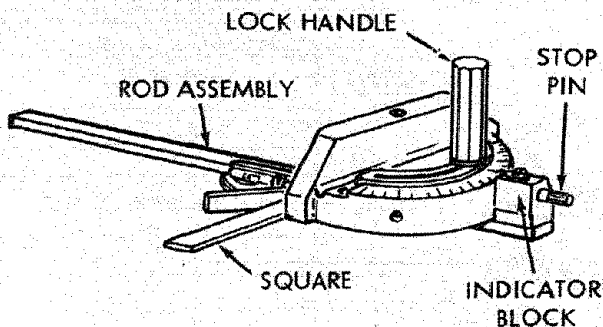

Figure 33
(1) Loosen the lock handle and push stop pin firmly into the middle detent ("0" position on the scale). The stop pin will be seated more effectively if it is rotated slightly as it is being "pushed" into the detent. Tighten the lock handle firmly hand tight. (See figure 33.)
(2) Using a combination square, check for an exact 90-degree angle between the miter gauge and rod assembly. If this measurement is exactly 90 degrees, the adjustment has not been disturbed and the gauge is ready for use. If not accurate at 90 degrees, adjust the gauge as follows: